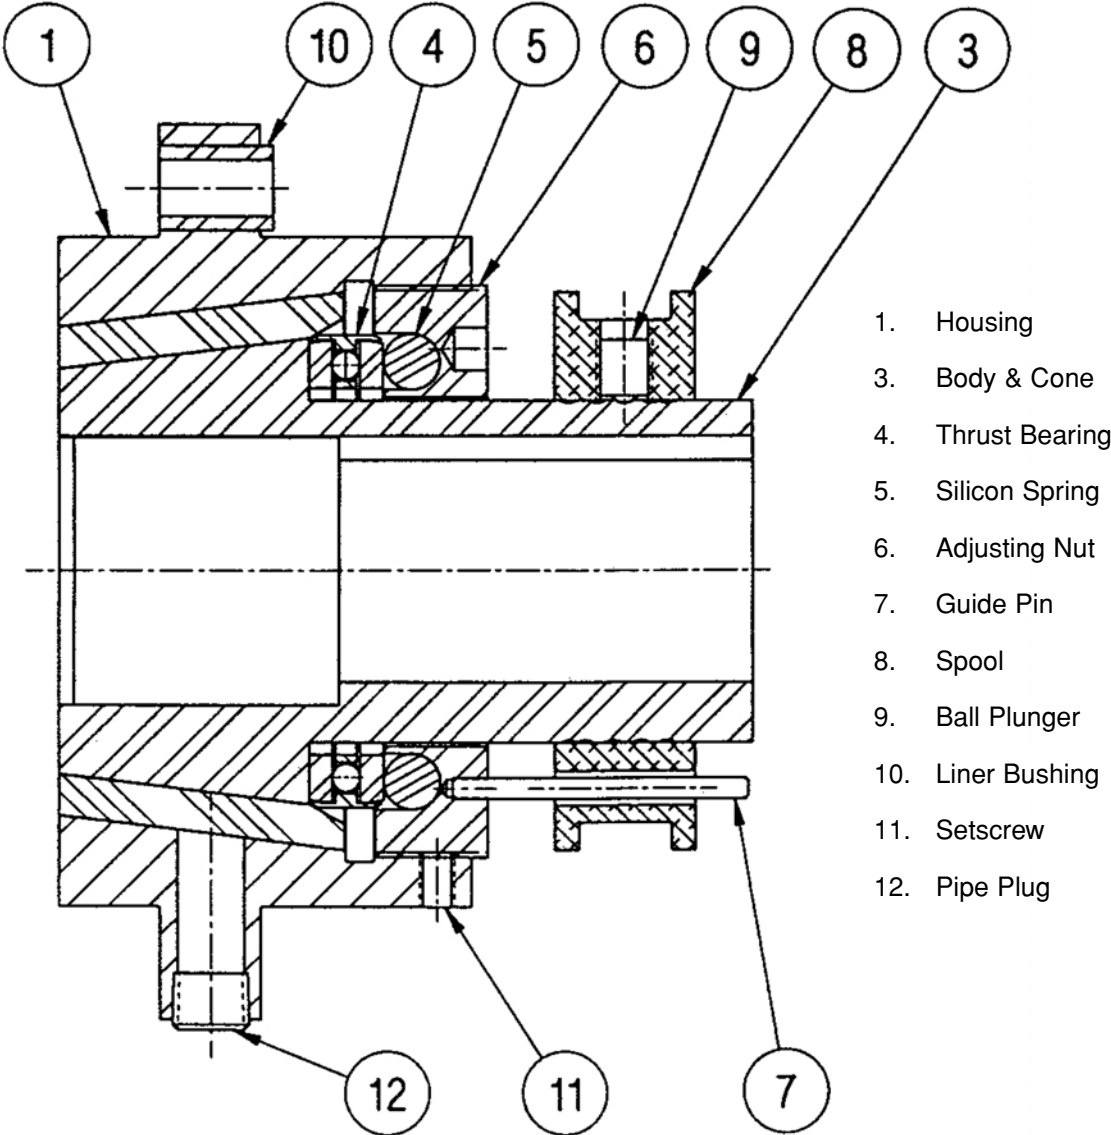
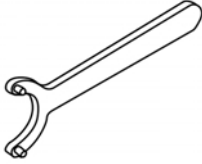

FIGURE 8
FIGURE 9
The shut-off spool (number 8, Figure 9) is attached to body and cone (number 3, Figure 8) by means of shallow round threads in body and cone (number 3, Figure 8) and a ball plunger (number 9, Figure 8) in spool (number 8, Figure 8). When the clutch is operating normally (i.e. not slipping), there is no relative movement between spool (number 8, Figure 8) and main body (number 3, Figure 8) and the remainder of the clutch, including the spool (number 8, Figure 8) driven by pin (number 7, Figure 8). This relative rotation causes the spool to move along the screw threads on the body (number 3, Figure 8). The spool will move to the left or to the right, depending on the rotation of the clutch. This lateral movement of the spool is intended to activate a limit switch arm located in the center groove in the spool. The "tripped" limit switch should be electrically connected to the controls to stop the operation of the motor driving the indexer.
Manually disconnect the power to the drive motor to prevent an accidental start-up (use O.S.H.A. approved lockout procedures), clear the cause for the overload. Then simply push or pull the spool (number 8, Figure 8) on the main body (number 3, Figure 8) to the thread engagement closest to the center position on the threaded portion of the body (number 3, Figure 8). Check the limit switch circuitry for proper operating conditions. The indexer can now be powered up and production resumed.
- a. Loosen cone point setscrew (number 11, Figure 8).
- b. Insert pins of spanner (Figure 9) into holes of adjusting nut (number 6, Figure 8), and turn nut clockwise one notch in the adjusting nut. This will tighten the clutch.
If clutch has not been adjusted for a long period of time, it may be necessary to turn the nut counter-clockwise several turns, and tap the face of housing (number 1, Figure 8) towards the indexer with a rubber mallet to separate (loosen) the tapers. Take note of the number of loosening turns so the adjusting nut can be re-tightened to its original position.
- c. Re-tighten setscrew (number 11, Figure 8) making sure it engages in adjusting nut (number 6, Figure 8) to prevent damage to screw threads.
NOTE: If setscrew (number 11, Figure 8) is accidentally tightened on threaded portion of adjusting nut (number 6, Figure 8), it will raise a burr. Failure to remove this burr will cause shearing of threads and jamming of nut of housing (number 1, Figure 8). To remove burr, remove setscrew (number 11, Figure 8) and rotate adjusting nut counter-clockwise until burr is in center of tapped hole in housing (number 1, Figure 8). Use a hand electric drill that fits freely into the tapped hole. Drill into the adjusting nut (number 6, Figure 8) sufficiently to remove the burr.
There are (2) setscrews (number 11, Figure 8). They are positioned so one screw is half way between the slots in the nut when the other screw engages the slot in the nut. This is to allow for fine adjustment of the clutch. DO NOT use both screws at the same time as one screw will not be over a slot and will cause damage to the screw threads.
NOTE: When clutch is not slipping, entire clutch will rotate as a single unit. When clutch is slipping body and cone (number 3, Figure 8) will not rotate with the other parts of the clutch. Small amounts of clutch slippage can be difficult to determine. To aid in providing if the clutch is slipping, use a grease pencil or felt tip marker and draw a line across face of nut (number 6, Figure 8) and along body and cone (number 3, Figure 8). If clutch is slipping, the line on nut (number 6, Figure 8) and body and cone (number 3, Figure 8) will move relative to each other.
- a. Clutches are grease packed at the factory and should not require additional lubrication. If clutch is subject to consistent slippage and heating, remove pipe plug (number 9, Figure 8) and insert your standard grease fitting, lubricate with Lithium EP grease. Do not use air pressure gun!